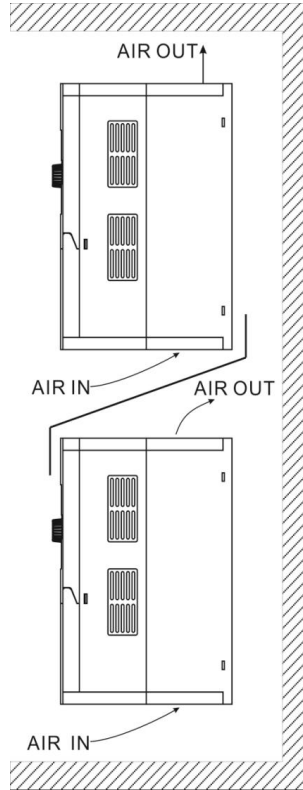

Fig. 2-2.2
- 2) Install the inverter vertically so that the heat may be expelled from the top. However, the equipment cannot be installed upside down. If there are multiple inverters in the cabinet, parallel installation is better. In the applications where up-down installation is required, please install the thermal insulating guide plate referring to the Fig. 2-2.2 for standalone installation and up-down installation.